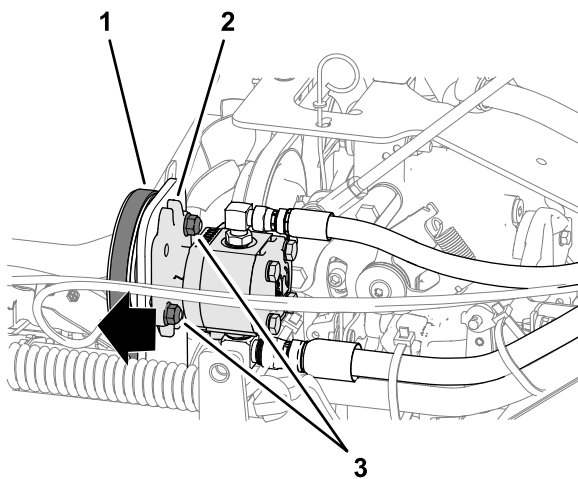

Figure 51
3. Loosen the 2 flange locknuts (3/8 inch) securing the auxiliary pump to the mounting bracket (Figure 51).
4. Slide the pump outward (Figure 51) in slots and torque the flange locknuts to 37 to 45 N·m (27 to 33 ft lb).